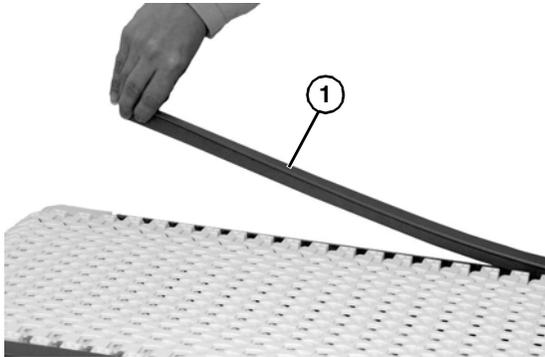

Figure 32
- Install the top bar caps (**Figure 32, item 1**) on the conveyor frame with wide lip facing up to cover the belt tabs.